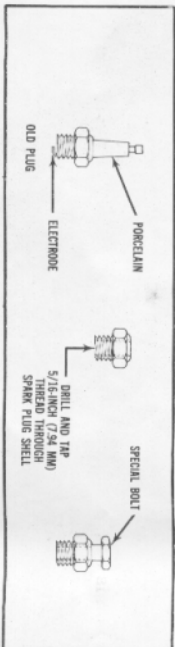

FIGURE 12
4. Remove the porcelain and ground electrode from a spark plug and drill and tap a 5/16-inch (7.94 mm) thread through the spark plug shell (Figure 12). Thread the special bolt into the shell. This assembly is your piston stop.